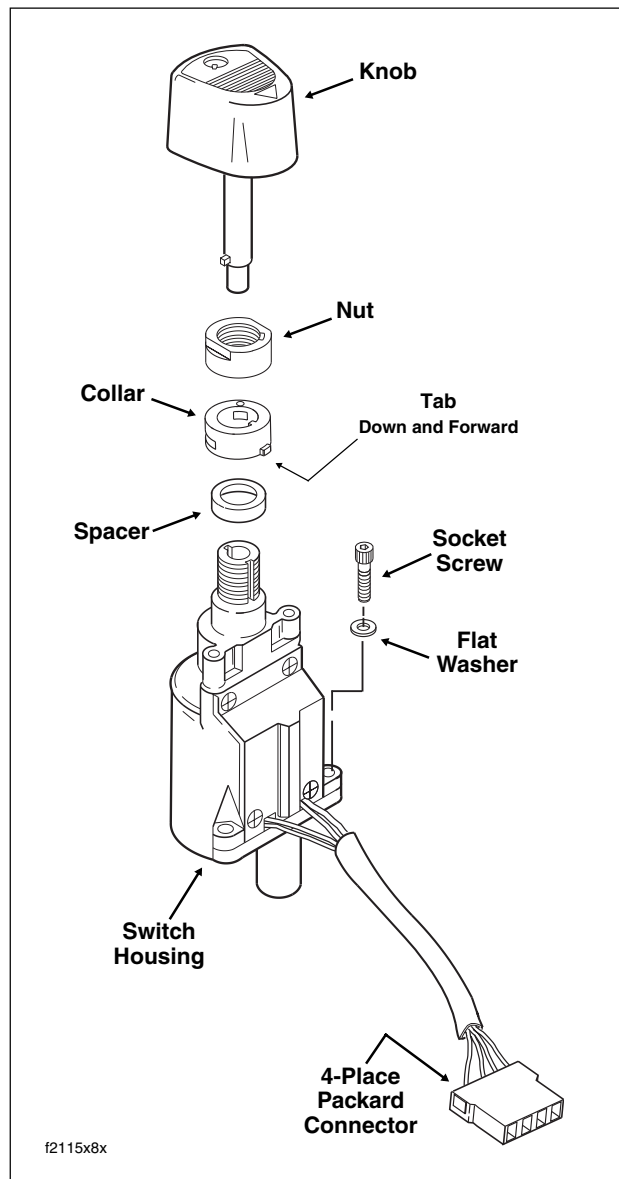

Figure 8-62. Ignition Switch Assembly (Domestic)
3. Using a 7/8 inch wrench on flats, loosen switch nut and remove from threaded post of ignition switch housing. Remove collar and spacer. See Figure 8-62.